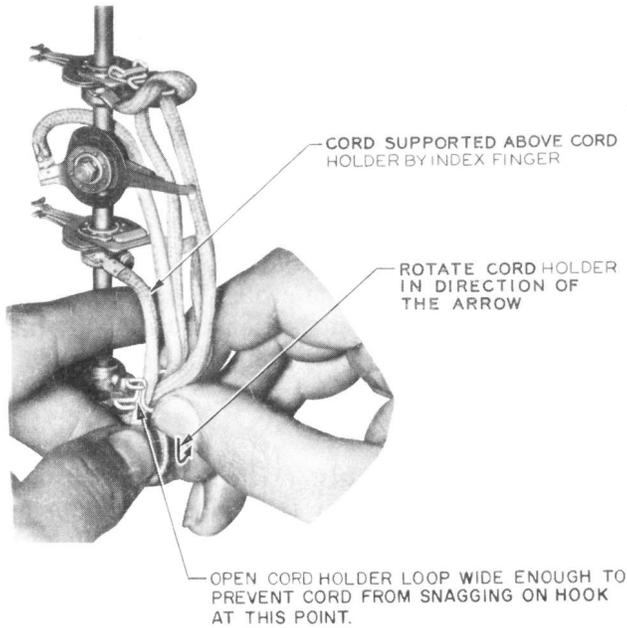

Fig. 24—Method of Removing Detachable Cord Holder From Cord
3.23 Grasp the cord nearest the opening just below the holder with the thumb and middle finger of the left hand, at the same time supporting the cord above the holder with the index finger, as shown in Fig. 24, to avoid bending the wiper lug. While holding the cord taut, twist the upper part of the holder away from the switch and snap the cord out of the holder by moving the holder to the right. In doing this, twist the cord holder far enough to prevent snagging the braid of the wiper cord on the lower hook. Repeat this procedure until all of the cords have been removed.